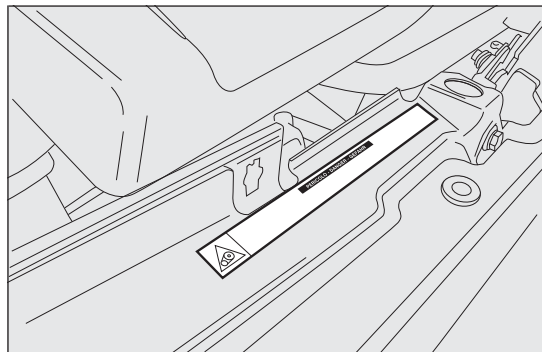

fig. 73
*Before opening the bonnet, make sure that the vehicle is switched off and the key is in the STOP position. Follow the instructions on the dedicated label on the front crossmember fig. 73. It is advisable to extract the key when there are other people in the car. The car should always be left after the key has been removed or turned to the STOP position. When refuelling, make sure that the car is switched off with the key in the STOP position.*